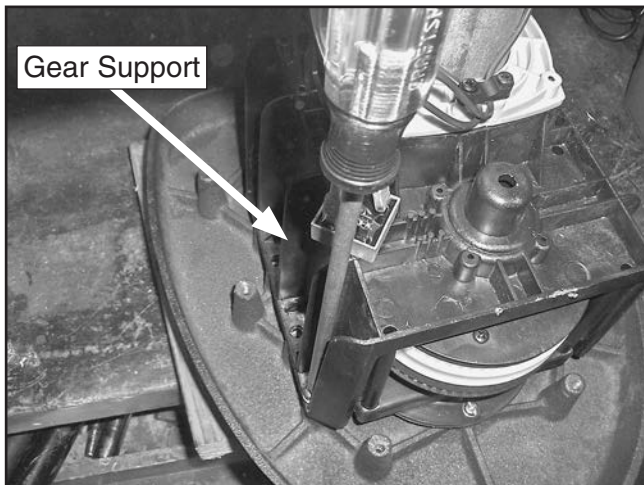

Figure 32. Installing gear support.
26. Install gear support (#66), as shown in **Figure 32**.